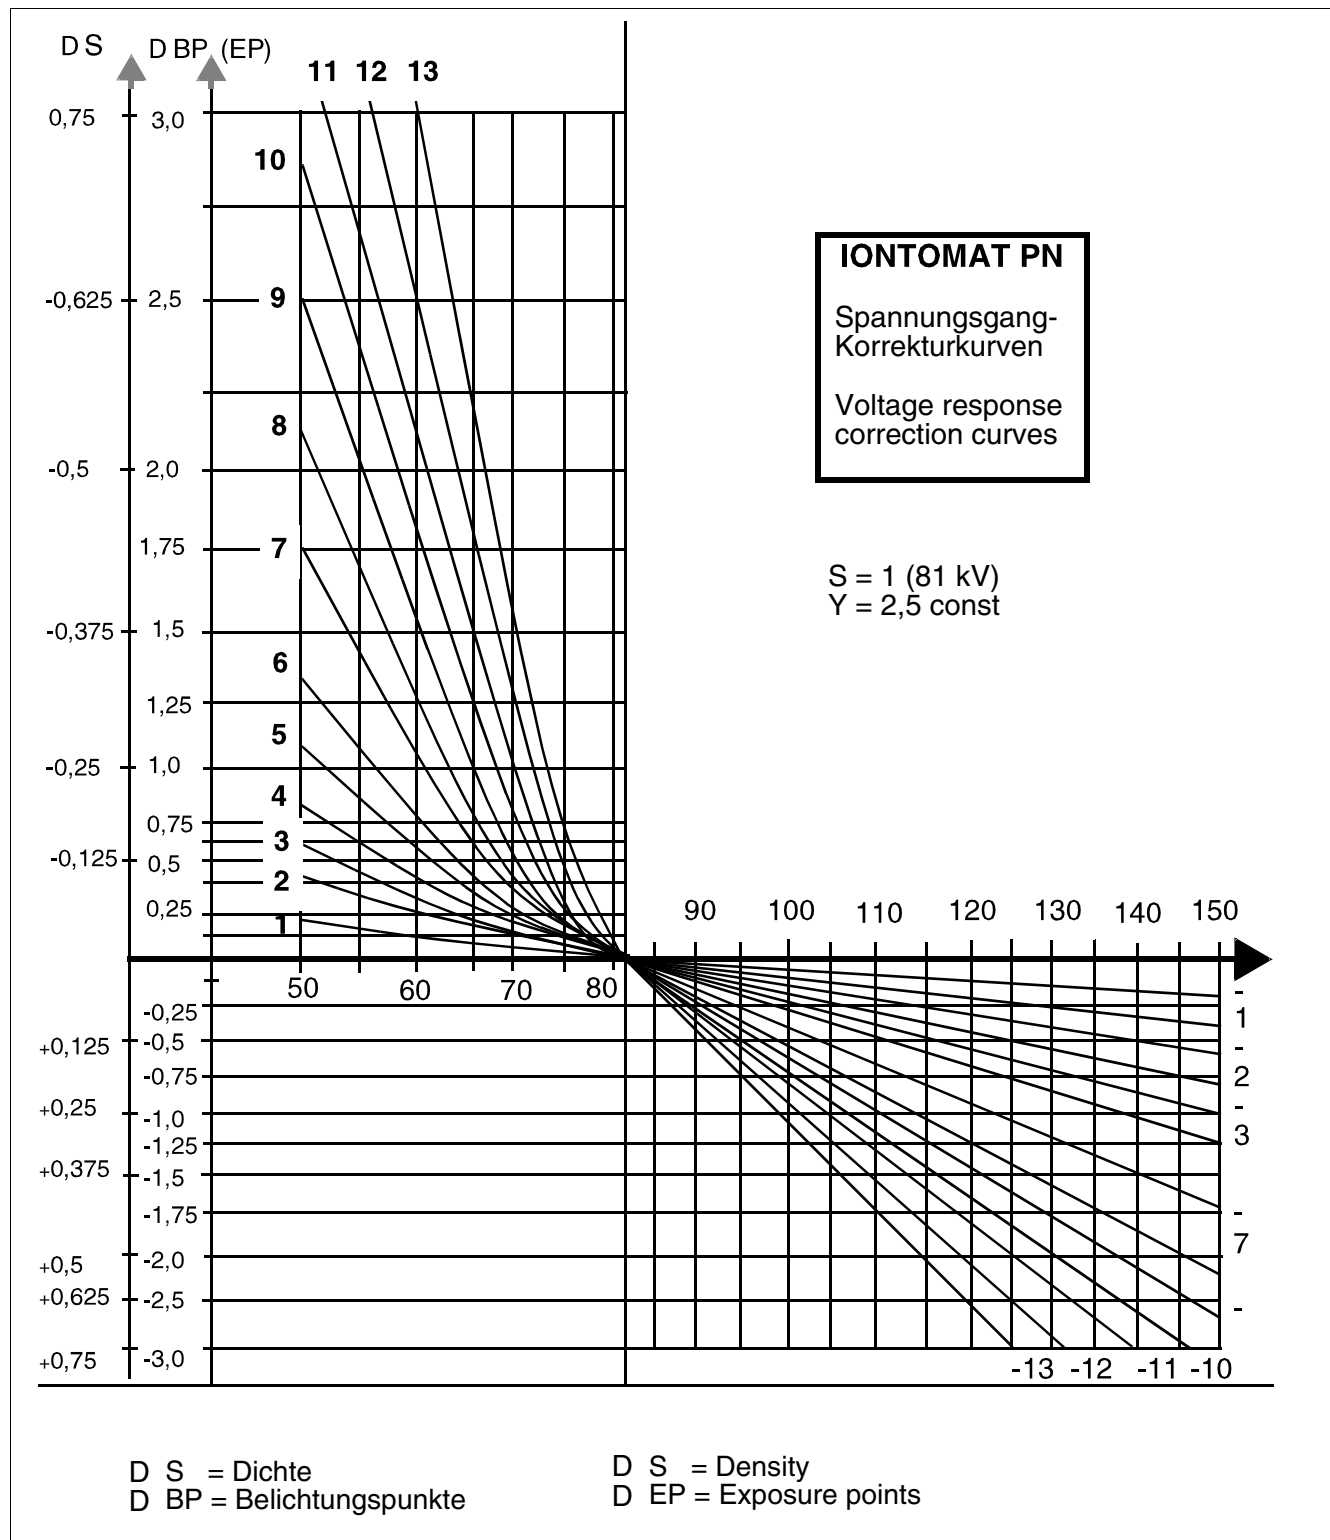

Fig. 6 Voltage Response Correction Curves
- The following graph (Fig. 6) and the associated table of values show the correction curves 1...13 for the lower kV range (40 kV...81 kV) and the correction curves -13...-1 for the upper kV range (81 kV...150 kV).